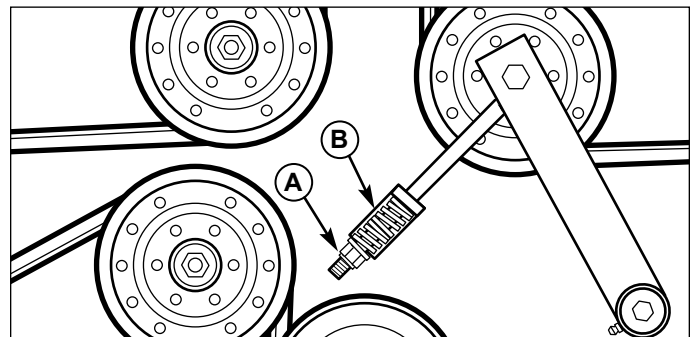

Figure 2. PTO Mower Drive Belt
1. Raise the floor pan and loosen the spring compression nut (A, Figure 2) to release the belt tension.
2. Reinstall the mower deck drive belt on the new spindle pulley. Tighten the spring compression nut (A, Figure 2) until the idler spring (B, Figure 2) is 1-1/2" long. Be sure the measure the spring only.